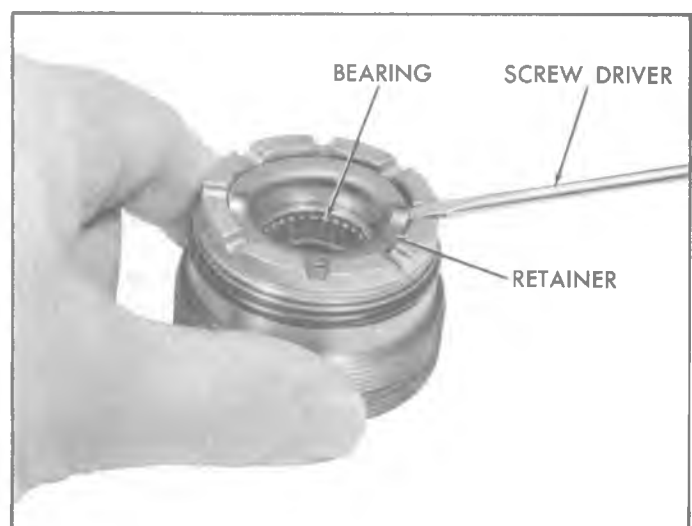

Fig. 43—Removing Retainer
2. If the thrust bearing ONLY is to be removed, pry the thrust bearing retainer at the two raised areas with a small screw driver (fig. 43). Remove the spacer, thrust bearing washer, thrust bearing and washer. Discard the retainer.